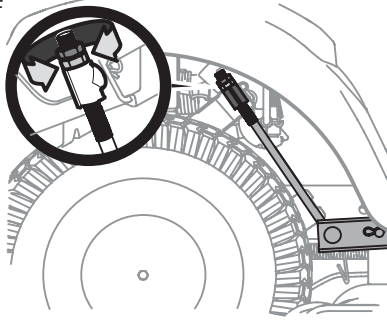

Figure 20
- Under the rear fenders inside the wheels there is a lift adjustment rod for each side of the deck. See Figure 20.